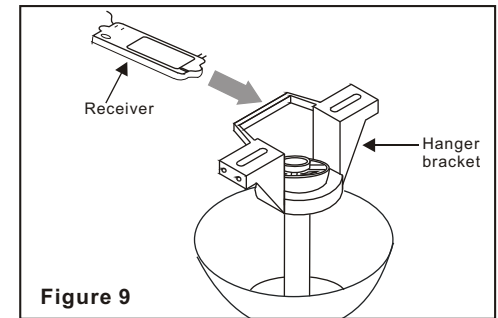

Figure 9
**Step 1.** (Figure 9) Insert the receiver into the mounting bracket with the flat side of the receiver facing the ceiling.